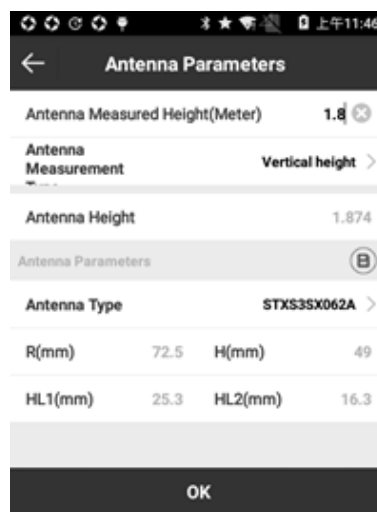
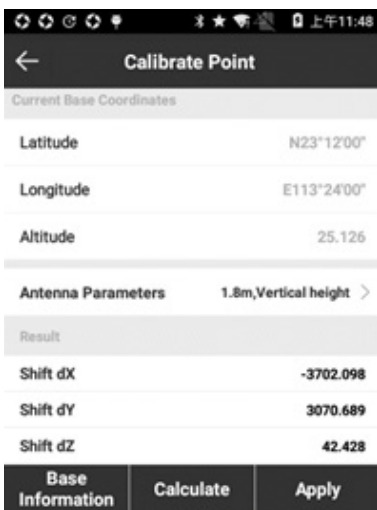

Figure 3.4-3
Figure 3.4-4
- (2) Input the known points, i.e. coordinate before base change. There are two ways to input coordinate: one is to select existing base coordinate from Points Library, the other one is to directly input base coordinate x, y, h before base change. Press [Antenna Parameters] to set antenna parameters as shown in Figure 3.4-3.
- (3) Input Antenna Measured Height, set Antenna Measurement Type (Vertical height, Height to phase center, Slant height, Slant height to altimetry), and Antenna Type is automatically selected according to current connected receiver, and press [OK] to return to Base Point Calibration interface.
- (4) Press [Calculate] to check calculation result as shown in Figure 3.4-4. Press [Apply] and it would directly apply the calculation result. If the calculation result is in